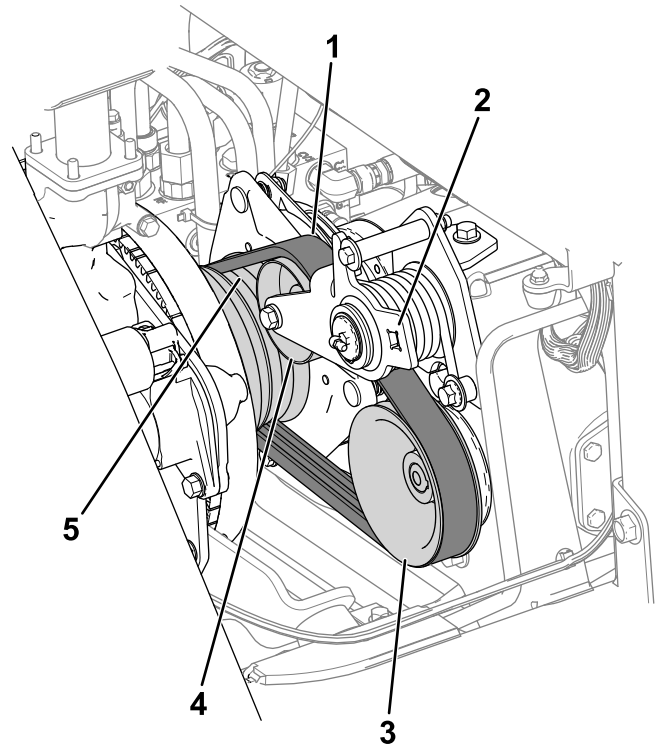

Figure 76
3. Route the belt on the engine pulley, idler pulley, and pump pulley (Figure 76).